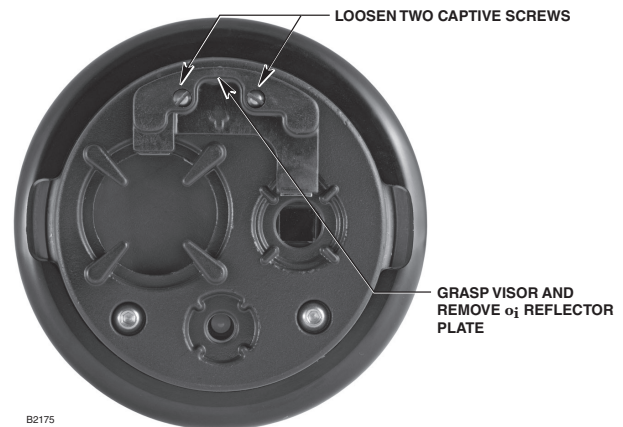

Figure 18—**oi** Reflector Plate Removal
2. Loosen the two captive screws, then grasp the **oi** reflector plate by the visor and remove it from the detector. See Figure 18.